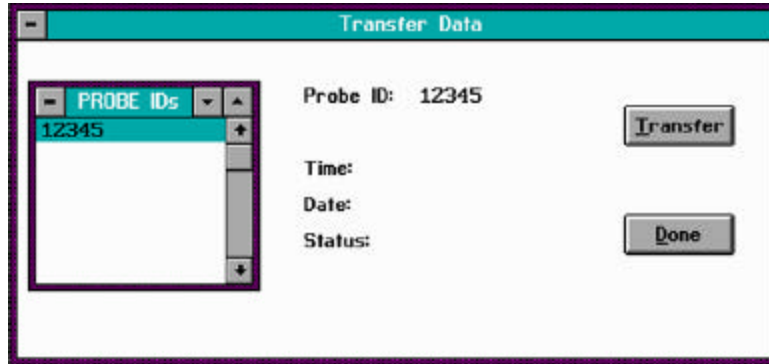

Figure 2-6 Transfer Data Window
17. The **Transfer Data** window appears. See Figure 2-6. The probe ID is displayed in the **Probe IDs** list on the left side of the **Transfer Data** window and also after **Probe ID:** at the center of the **Transfer Data** screen. Press the <Tab> key to highlight the **Transfer** button and then press the <Enter> key.